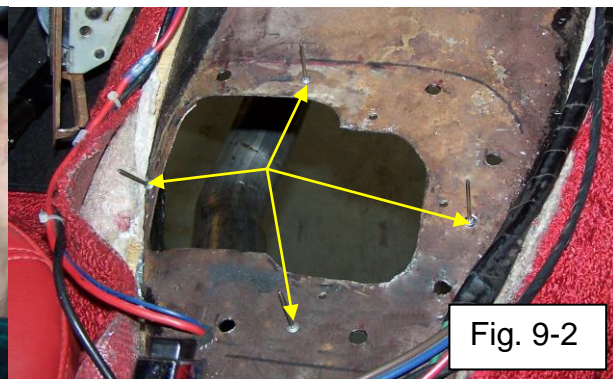
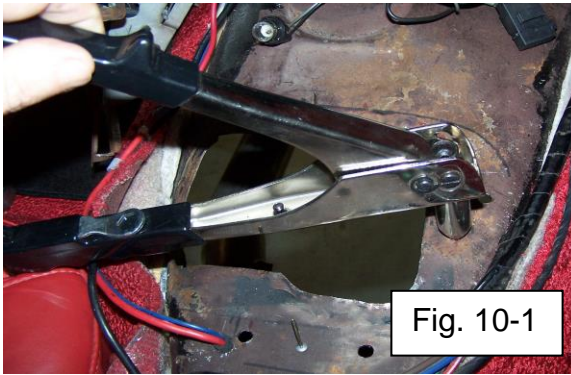
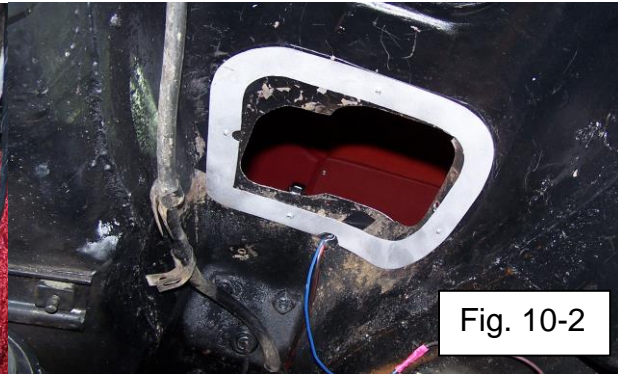

Fig. 9-2
Fig. 10-1
Fig. 10-2
- c. Drill the tunnel for the (4) 1/8" dia holes for pop rivets, (8) 3/16" dia and (3) 1/8" dia holes for mounting screws. Loosely install rivets into the drilled rivet holes in the tunnel. See rivet locations in Fig 9-2.
- d. With a second person positioned under car, place backing plate BMG-03004/BMG-03104 on bottom side of tunnel and locate over the (4) rivets. Adjust bend of backing plate if needed to conform to tunnel shape.
- e. Apply bead of body sealer or Permatex Black Silicon Adhesive Sealant #81158 (or equivalent) to top of backing plate and re-position over the (4) rivets. Install rivets from top. See Fig.10-1. Backing plate is now attached to bottom of tunnel. See Fig. 10-2. Paint for corrosion protection.